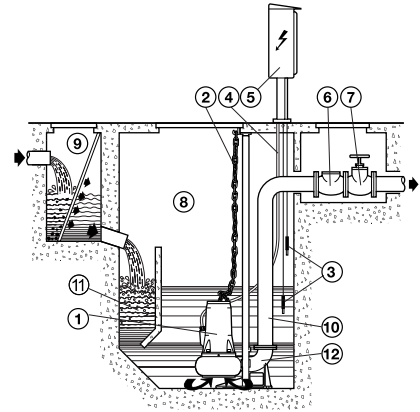

Afb. 5
5.2.1 MOBILE INSTALLATIE (AFB. 5)